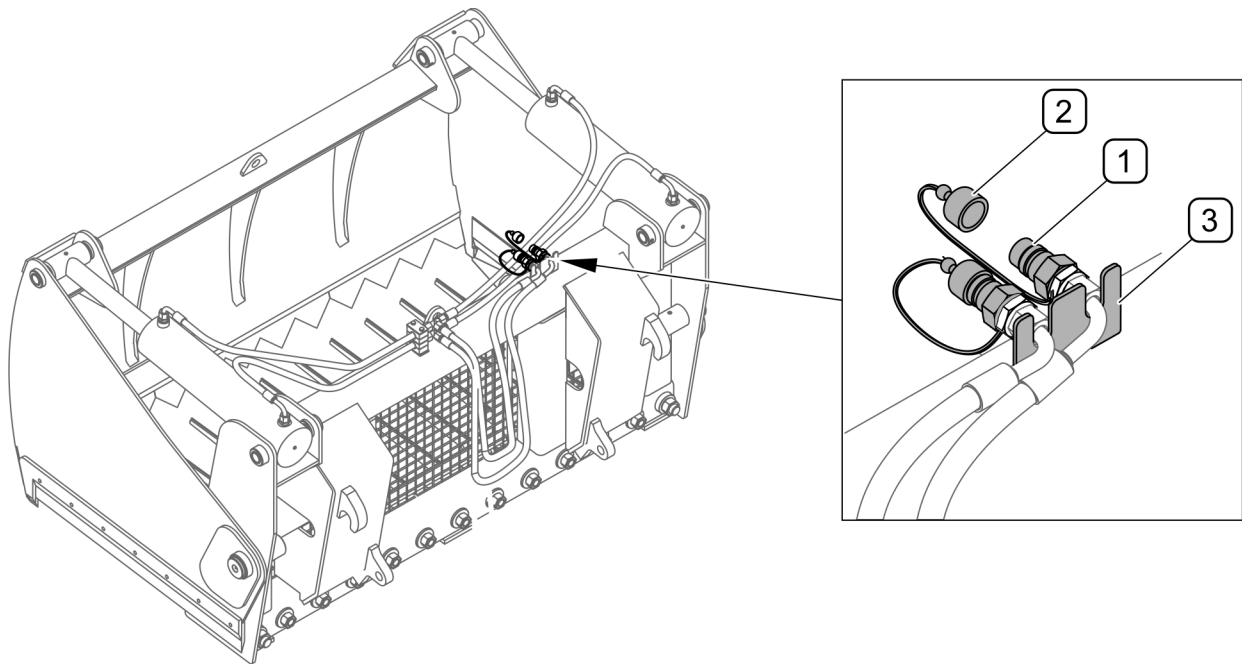

FIG 4.5 Protection of hydraulic quick couplers
- disconnect hydraulic conduits of equipment from the loader installation, secure with plugs and place in the bracket (FIG 4.5);